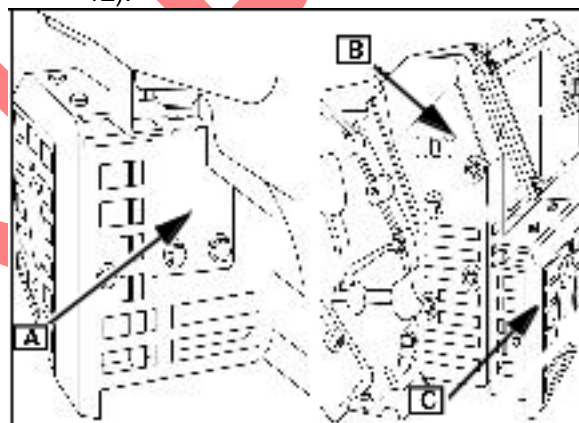

Fig. 12
Remove carburetor heat shield ([A] Fig. 12).
Remove muffler guard (B) and manifold guard ([C] Fig. 12).